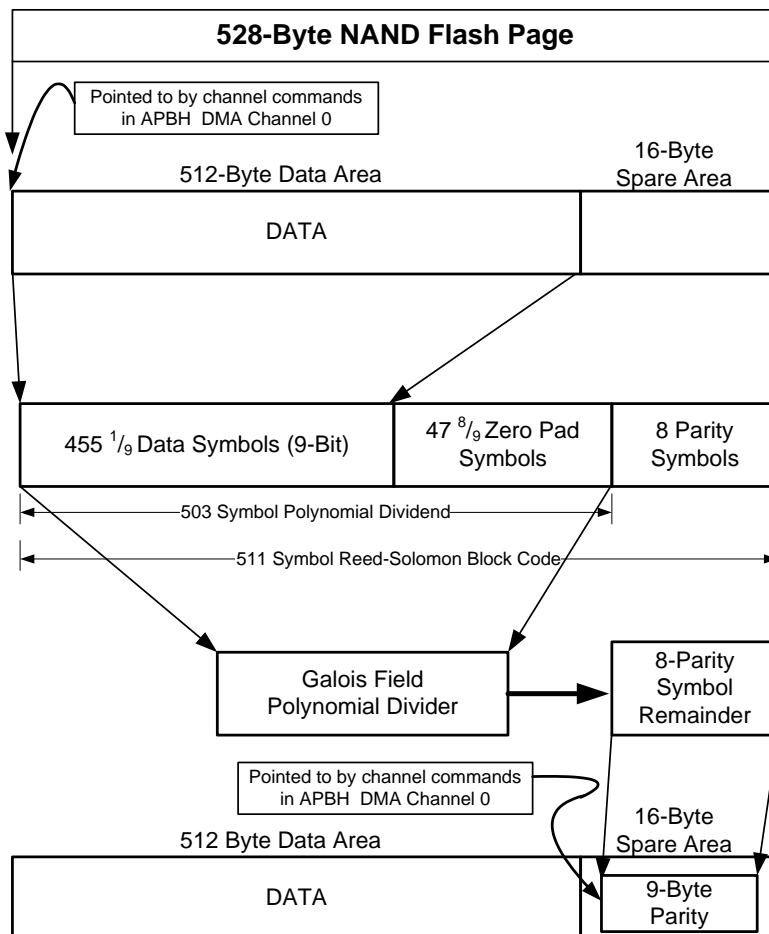

Figure 50. Hardware ECC Reed-Solomon Block Coding—Encoder
- Channel commands in APBH DMA Channel 0 are used to point to the data block in either on-chip or off-chip RAM (as shown in Figure 50).
- The Reed-Solomon (RS) algorithm uses 9-bit symbols. Thus, a 512-byte data block encompasses 455 1/9 symbols.
- The hardware retains the 8-symbol (72 bits or 9 bytes) remainder from this division, which it then stores as the parity for the block. Channel command words in the same APBH DMA channel (0) are used to store the parity into on-chip RAM.